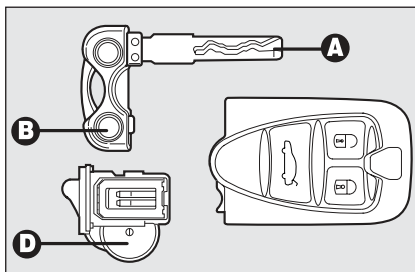

fig. 9
To change the battery **fig. 9** proceed as follows:
- ☐ remove the battery **D**-**fig. 9** from the case taking note of the bias (in the figure the positive pole is facing downwards);